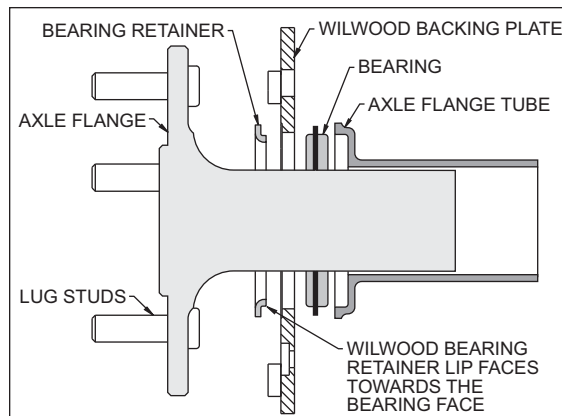

Figure 6. Retainer / Axle Diagram
Completely disassemble the stock brake system down to the bare axle utilizing a qualified machine shop to press off axle bearing and OEM retainer. Then have the machine shop install new retainer (2), supplied with bracket kit with the lip facing towards the bearing and backing plate (or backing plate can be installed later by removal and replacement of bearing snap ring, reference Figure 6 (we suggest you install a new bearing at this time, not supplied in the kit). Degrease and remove any dings or burrs on the housing flange as well as the axle flange which may interfere with the brake assembly.